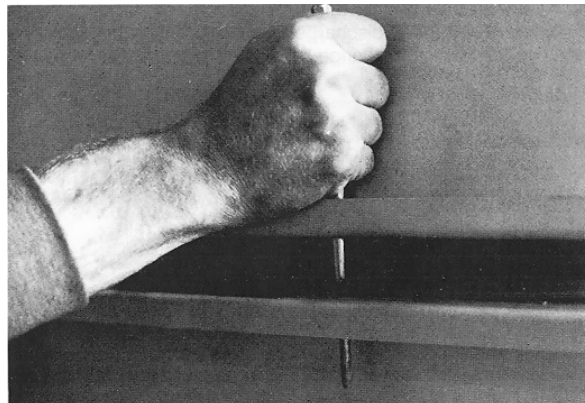

Figure 5.
- 4) Insert drift pins downward through the four corner screw holes in the hood (See Figure 5). Continue to lower the hood slowly, maintaining alignment with the drift pins until it rests on the unit.